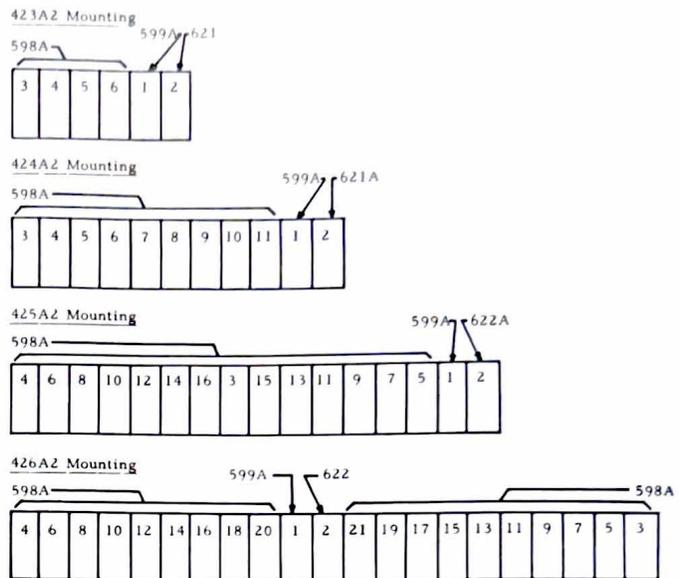

Fig. 12 — Sequence for Installing Keys, Large Capacity Mountings
12. Install additional keys in the order given in Fig. 12. Test each key as it is installed. This sequence of installing and testing each key individually will detect errors in adjustments or malfunctioning keys quickly.